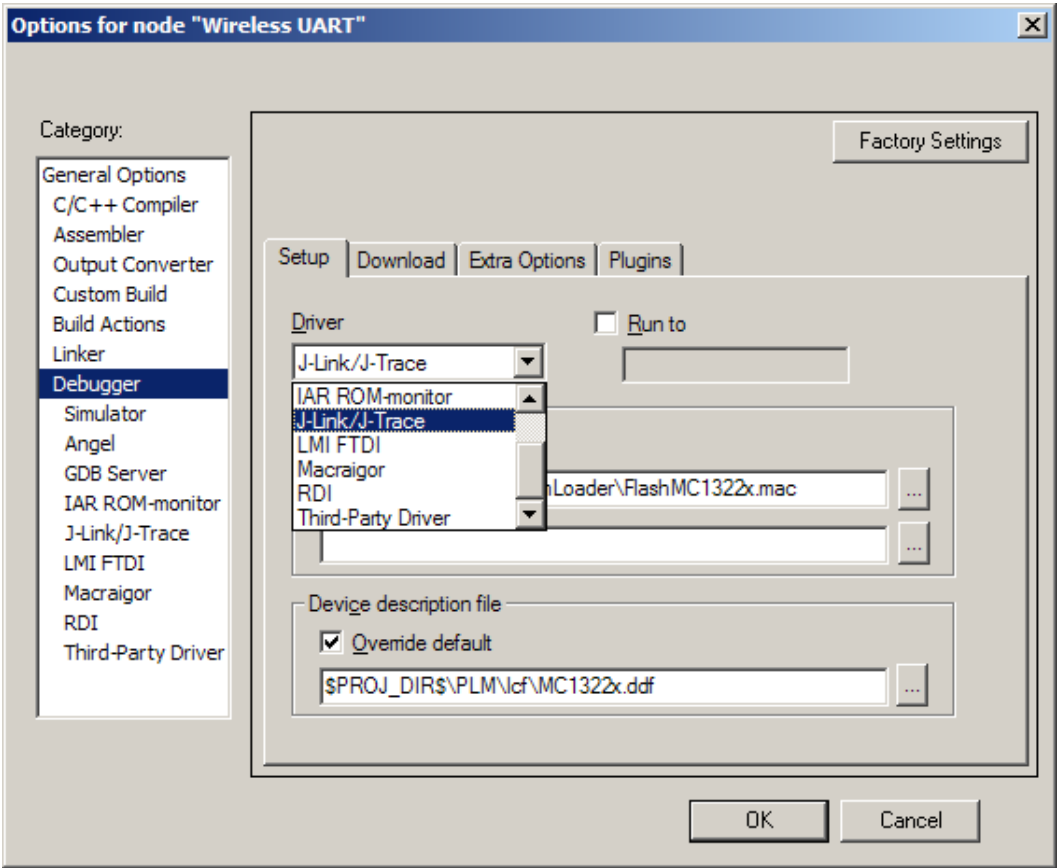

Figure 1-14. Debugger Setup
3. At the debugger category on the Setup tab, select the “J-Link/J-Trace” option as shown in Figure 1-14.